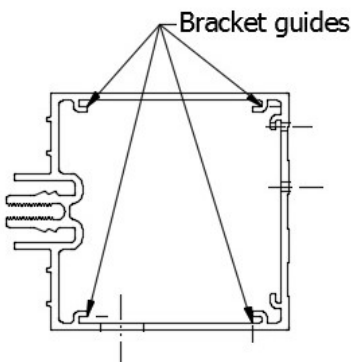

FIG.5
4. After the top rail and floor brackets are installed the post installation may start. All posts have two top brackets, except the start and end post located next to a wall, which use only one on the side opposite of wall. The brackets slide into the bracket guides. **FIG.5. & 6.**